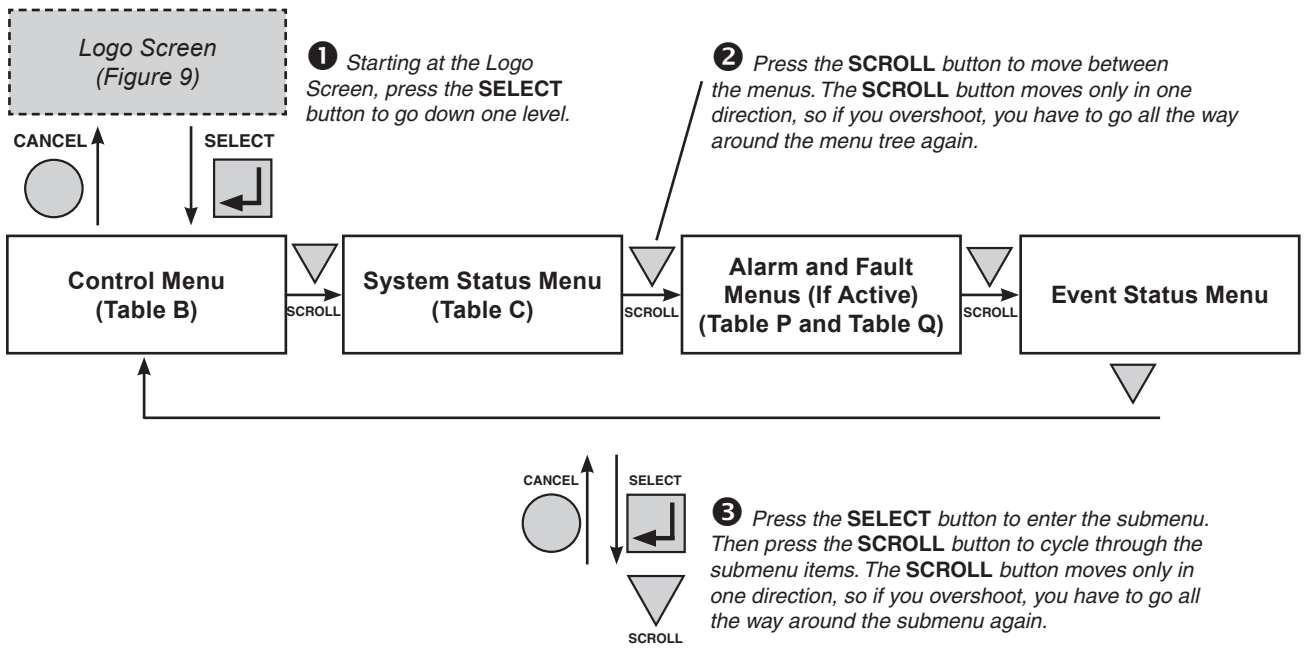

Figure 10 — LCD Menu Structure
**C Present operating mode - (LINE mode shown) See Figure 10.**